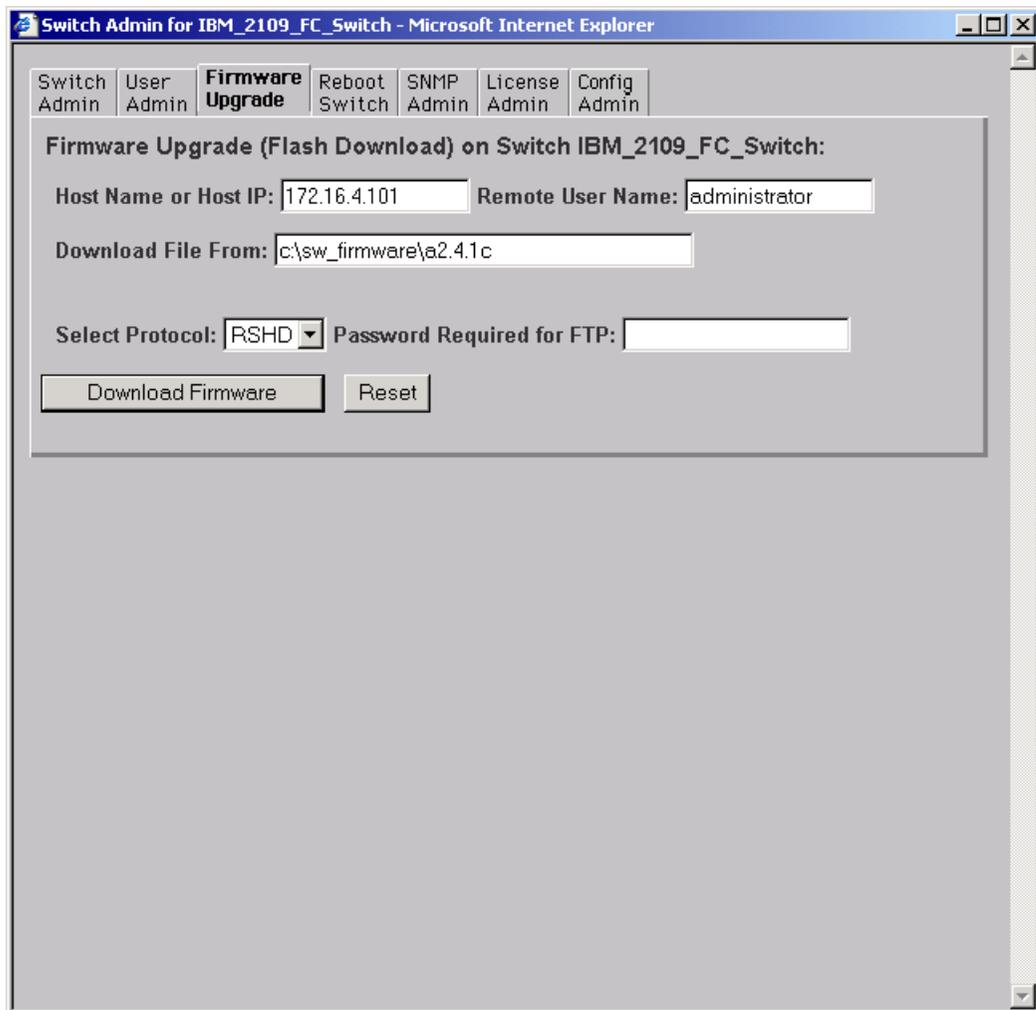

Figure 4-9 Updating the switch firmware
4. Open your Web browser and connect to the switch as before. Click the **Administration** button, log in, and select the **Firmware Upgrade** tab as shown in Figure 4-9: